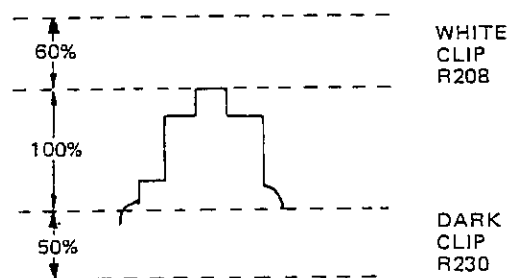

Figure 44
3. Observe the output on the oscilloscope and adjust R208 (white clip control) and R230 (dark clip control) so that the respective resultant waveforms will be as shown in figure 44.